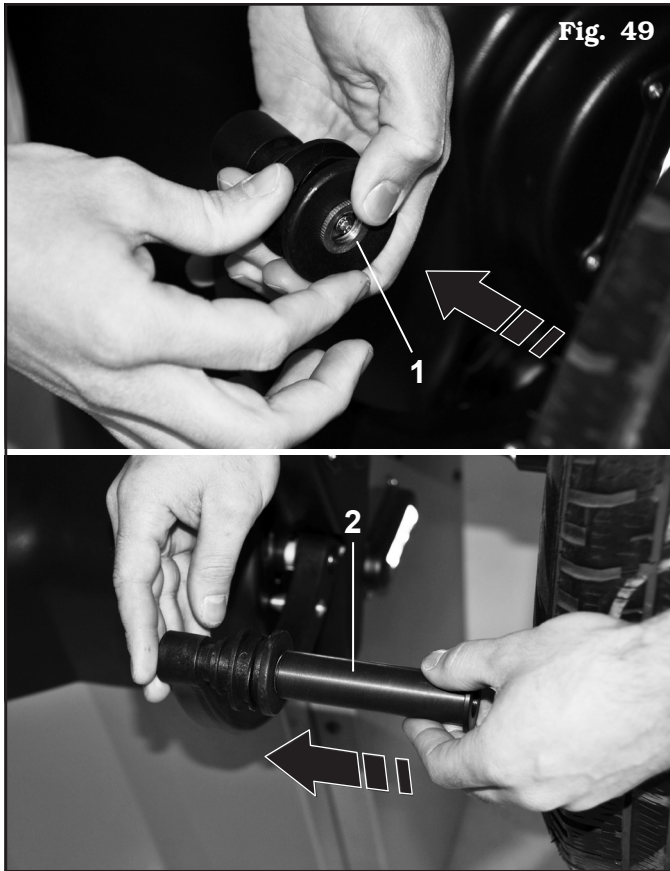

Fig. 49
To fit the extension (**Fig. 49 ref. 2**), first press the threaded ring nut (**Fig. 49 ref. 1**) in the hole provided and then screw the plastic terminal (see **Fig. 49**).